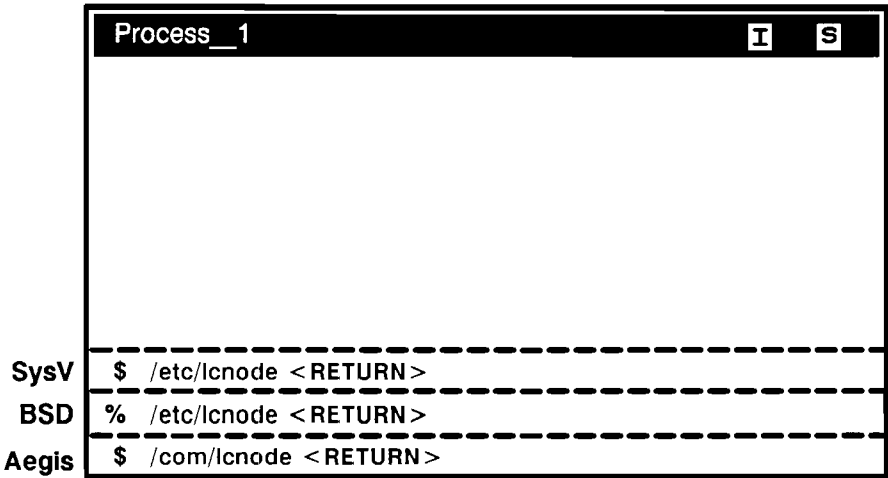

Figure 9-11. Running lcnode to Verify 802.3 Network Functionality
3. Verify that the 802.3 network functions properly by typing the **lcnode** command as shown in Figure 9-11.